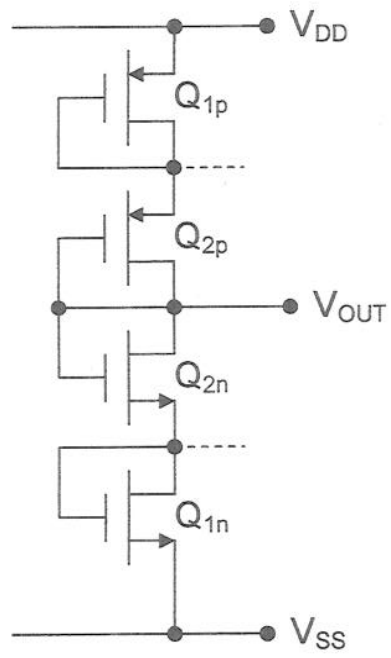

Figure 1.2
- (c) Explain qualitatively why the four-transistor voltage potential divider of Figure 1.2 can have smaller chip area than an equivalent two-transistor voltage potential divider with the same power consumption.